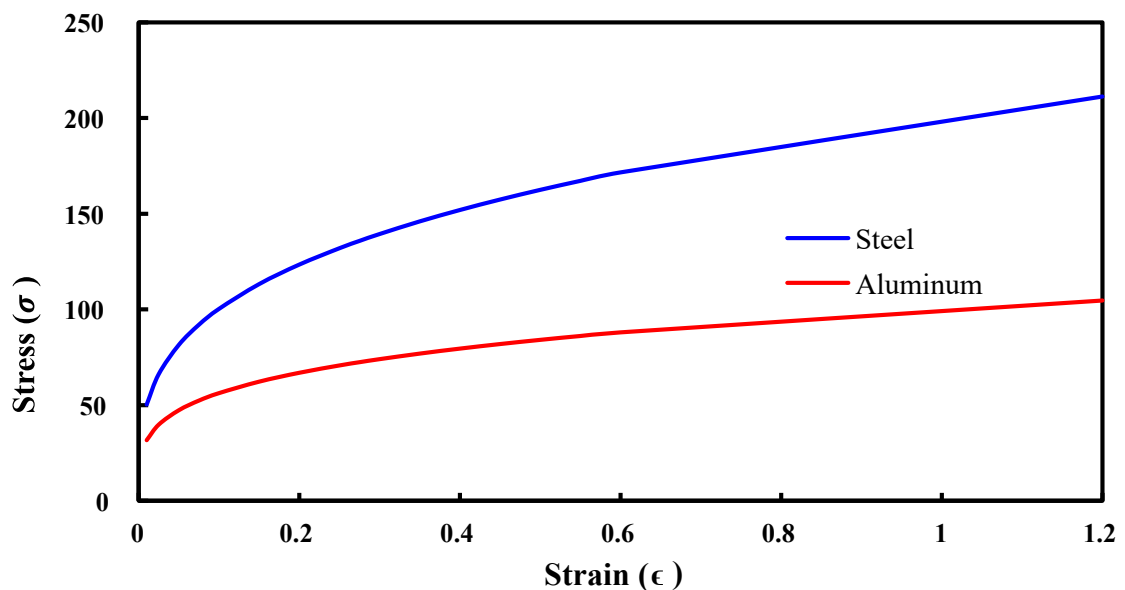

Fig. 1: Stress-Strain curve for Aluminum and Steel
1. Tensile tests were conducted on Aluminum and Steel samples. The stress (σ) - strain (ϵ) plots obtained from the test is depicted in Figure 1 in linear scale along x and y axis. The relationship of stress strain curve is of the form is $\sigma = A\epsilon^n$. *Convert the linear graph data represented in figure 1 to log-log plot and obtain the curve fitting equation in the power law mentioned above and determine the value of A and n.*